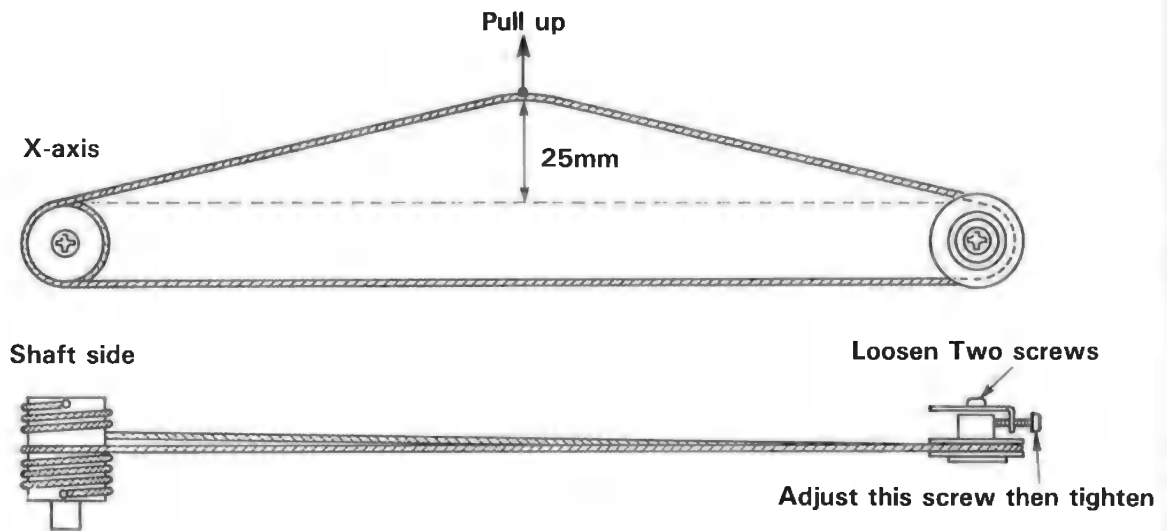

fig. 12-1
- 2). When pull the gauge up by 25 millimeter, an adequate tension is about 800 grammes in case of DPX-3300, 1100 grammes in case of DPX-2200. (see fig. 12-1)